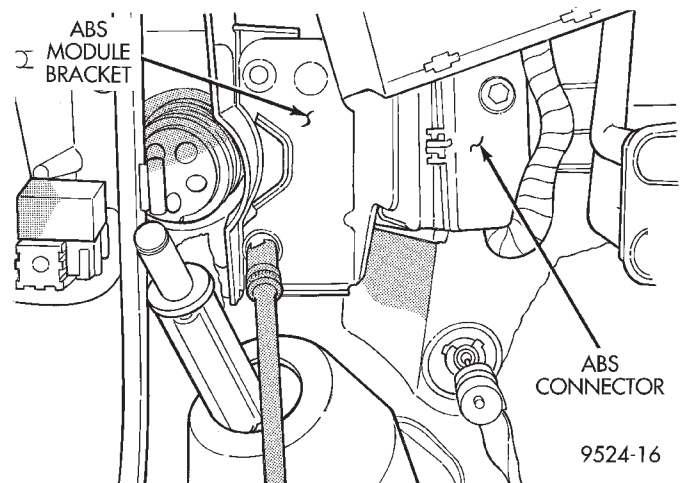

Fig. 13 ABS Control Module
- (1) Remove the lower left side steering column cover. Refer to Group 8E, Instrument Panel and Systems.
- (2) Remove ABS control module (Fig. 13).